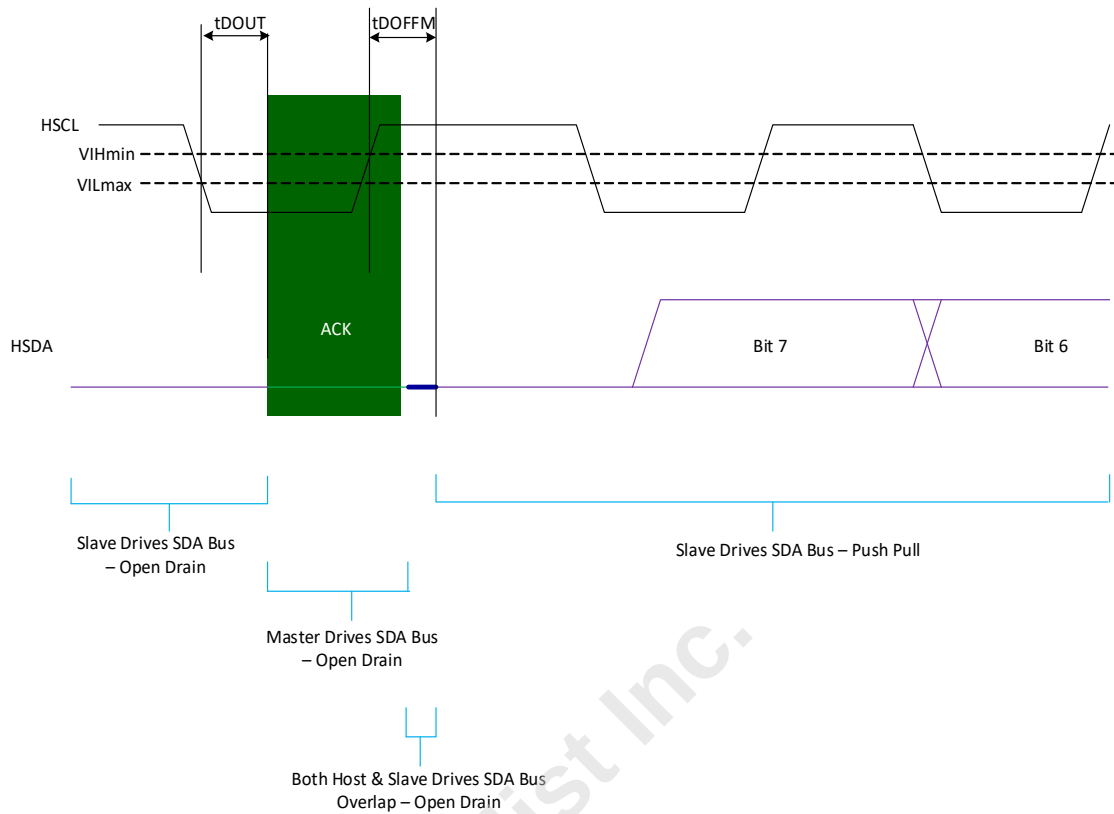

Figure 19 — Master Open Drain (ACK) to Slave Push Pull Hand Off Operation
1. See Figure 19 to see how the transition occurs from Host Open Drain (ACK) to Slave Push Pull Operation (1st bit of MDB Byte bit [7]).